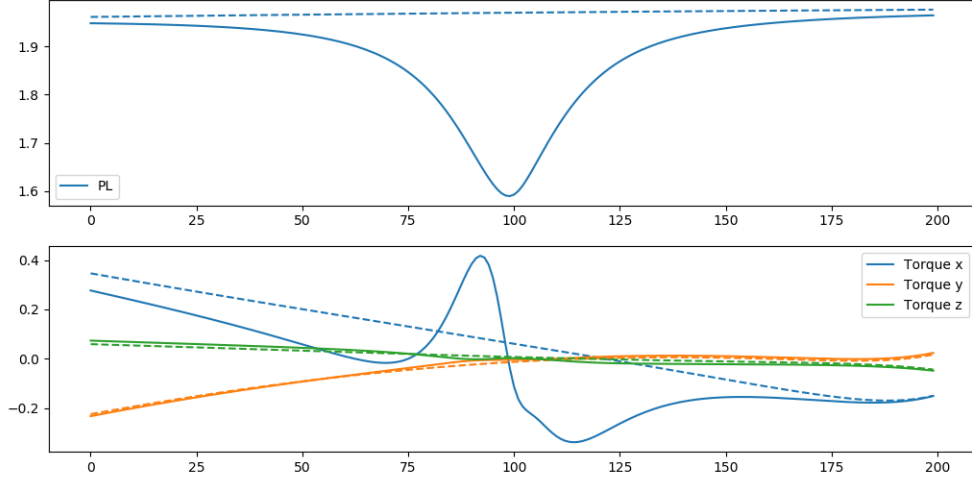

FIG. 4: ?
As illustrated in Fig.4, the diamond sample is typically illuminated with 1mW of 532 nm laser light, focused by a  $NA = 0.5$  objective. An acousto-optic modulator (AOM) is used to switch on and off the 532nm laser and to finely tune its power. The photo-luminescence (PL) is collected by the objective, separated from the excitation light using a dichroic mirror (DM) and a 532nm notch filter (NF), and detected using a multimode-fibered single-photon avalanche photo-detector (APD) (SPCM-AQRH-15 from Perkin Elmer). Typically, we detect PL photons at a rate of 1MHz.